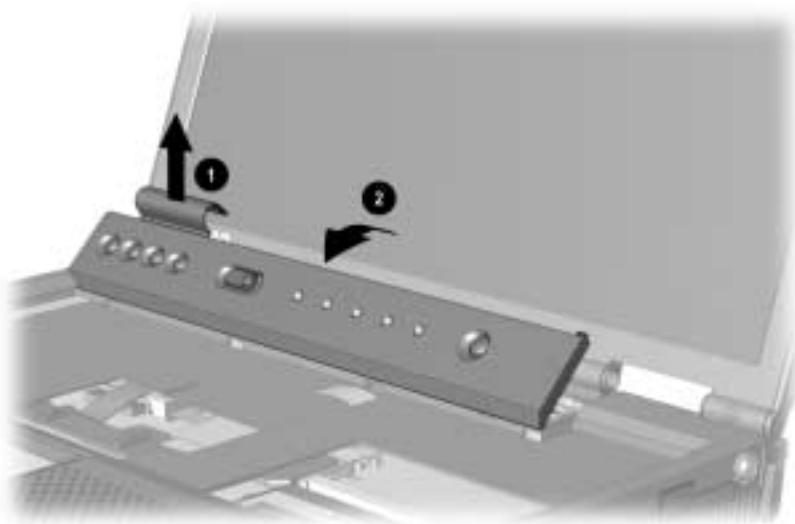

Figure 5-13. *Removing the Switch Cover*
6. Push the back of the switch cover up ① (Figure 5-13).
8. Swing the switch cover up and forward ②.